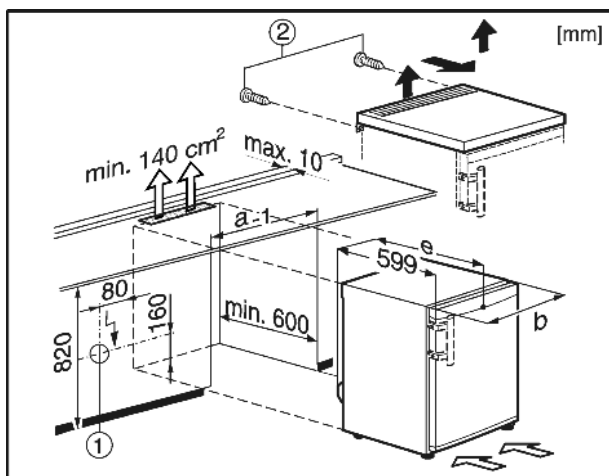

Fig. 9
With such installations, the plug Fig. 9 (1) must not be located behind the appliance and must be easily accessible.
- ▶ Remove the screws Fig. 9 (2) from the rear side.